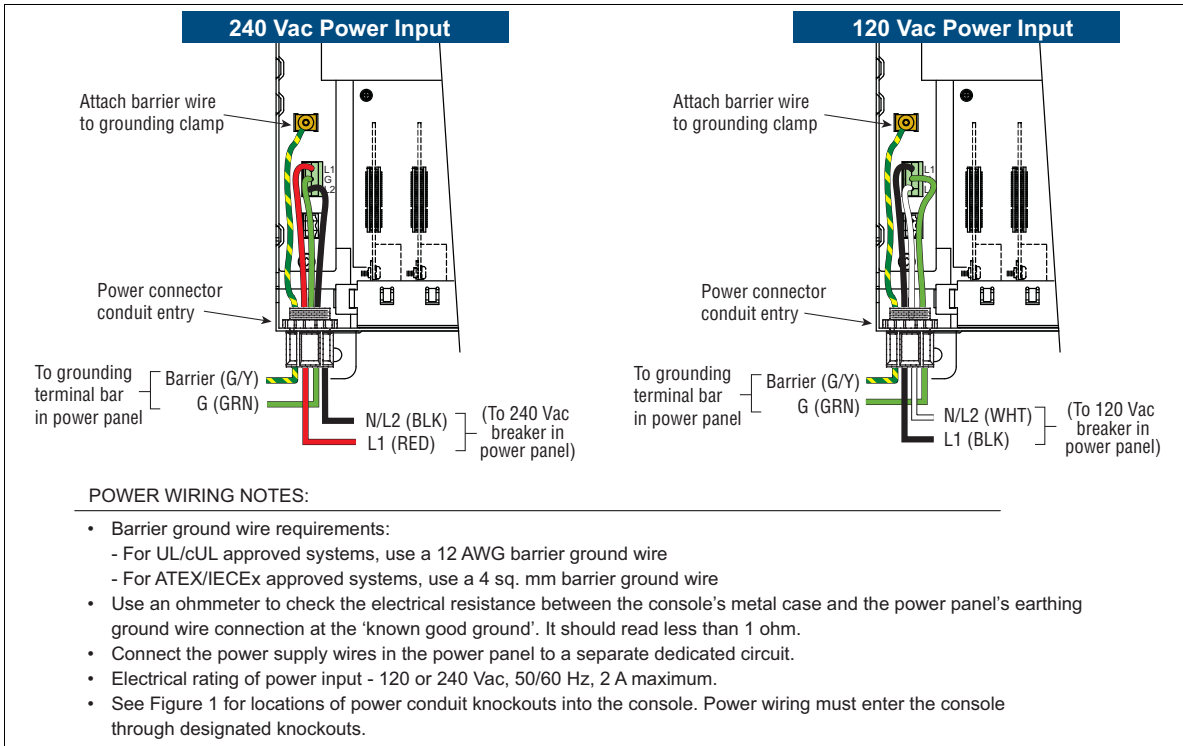

Figure 44. Wiring AC Power To The TLS-450PLUS Console
5. Connect the input 120 or 240 Vac power wires as shown in Figure 44.